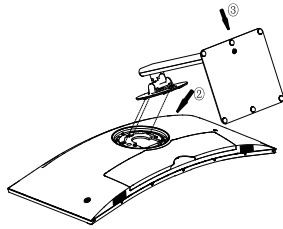

figure 2
- ① Connect the base and stand with the screws in the base.
- ② Align the three hooks on the base with the three holes on the machine, tilt them in the direction of the arrow and install them into the machine hole position, as shown in the Figure 2.
- ③ Press down in the direction of the arrow.